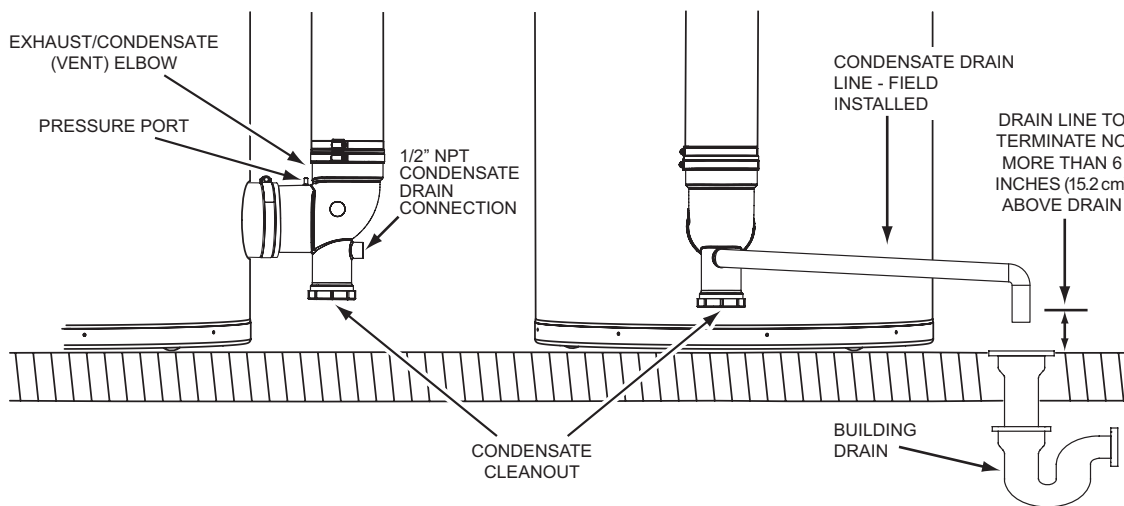

Figure 53. Condensate Drain Installation
2. Install a 1/2 inch PVC condensate drain line between condensate drain connection on the Exhaust/Condensate Elbow and a suitable building drain. The condensate line must slope to an open drain, see **Figure 53**.
3. Terminate the condensate drain piping with an elbow above the drain. Ensure that any discharge will exit the condensate drain line no more than 6 inches (15.2 cm) above a suitable building drain, or external to the building, see **Figure 53**.
4. Ensure the condensate drain line is not elevated above the condensate drain connection on the Exhaust/Condensate Elbow, see **Figure 53**.